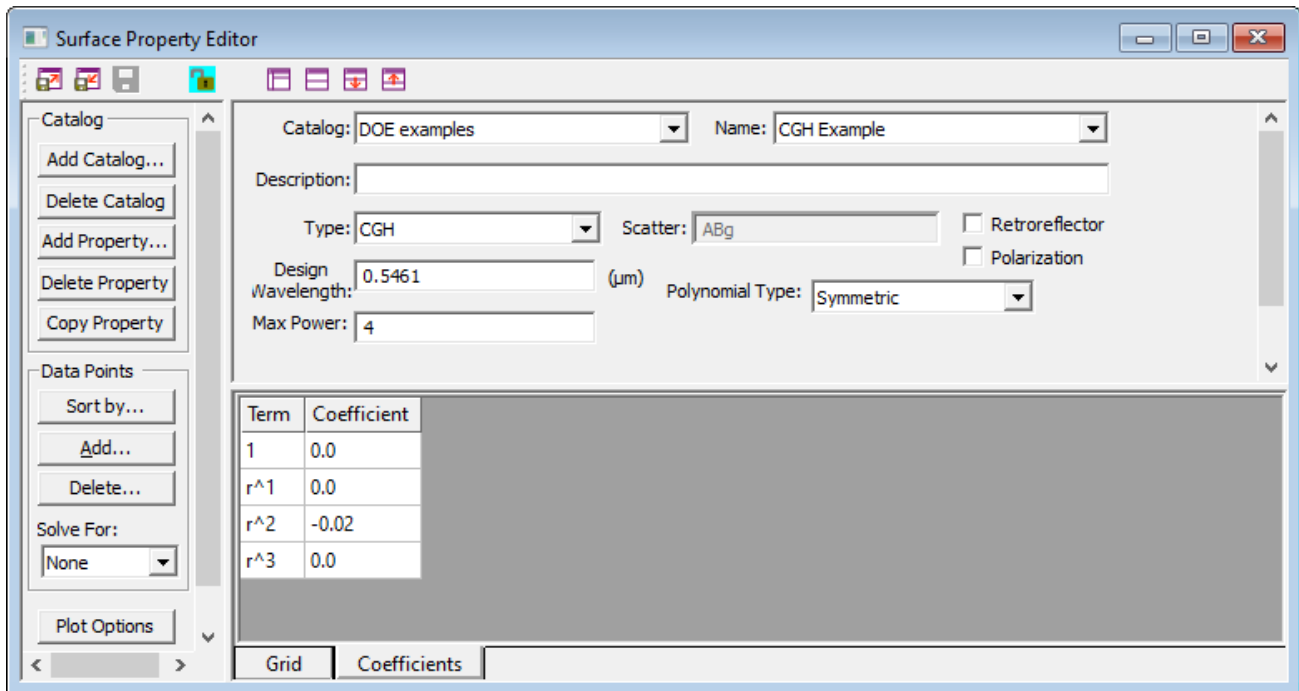

Figure 11. CGHのサーフェス特性の例
8. Select the **Coefficients** tab and enter -0.02 for the r^2 term. The completed property should appear as in Figure 11. Save the property and close the **Surface Property Editor** window.